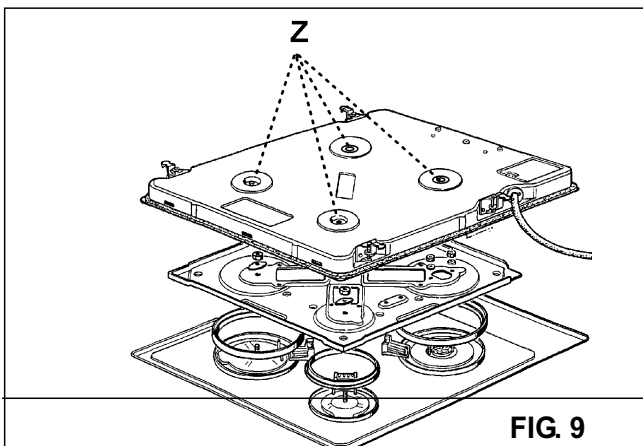

FIG. 9
**a)** Remove the hotplate from the top of the cabinet, overturn it, unscrew screw "Z" and remove under part (see fig. 9).
For access to the various parts, remove the hotplate from the top of the cabinet. Then overturn it, unscrew screw "Z" and remove under part. (see fig. 9). After these actions is possible to work on the plates, commutators, clamps and input cable.